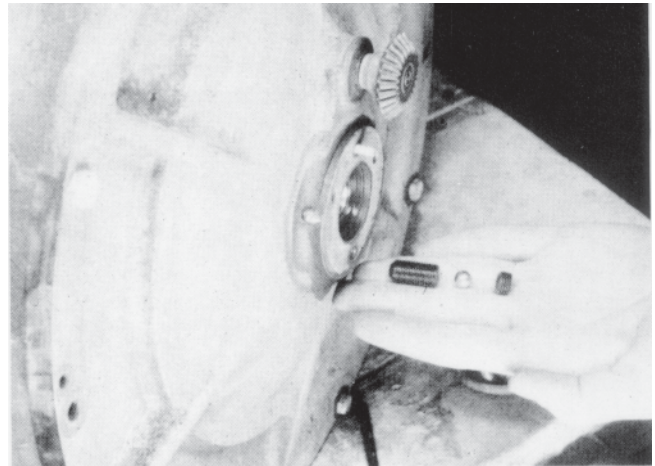

Figure 37 –Rotor Adjustment Components
- Take out the screws that hold the plate to the rotor and lift off. Remove wavy spring, adjusting screws and ball, Figure 37.
Figure 37 shows the rotor end clearance adjustment parts removed for examination.